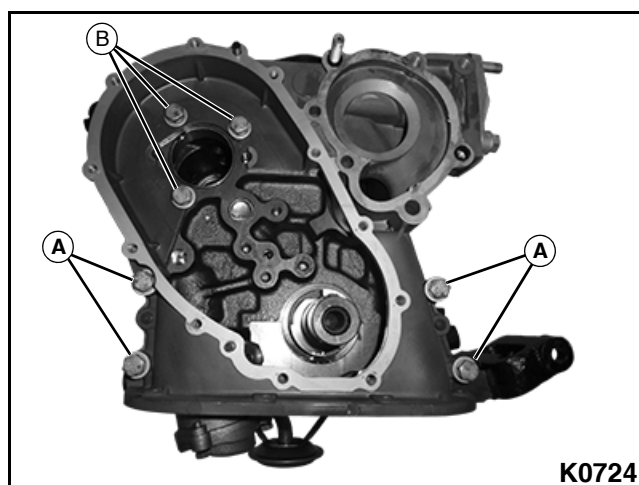

Figure 3-178
2. Install four outer housing bolts, lock washers, and flat washers (A). **See Figure 3-178.**
3. Install three inner housing bolts, lock washers, and flat washers (B).